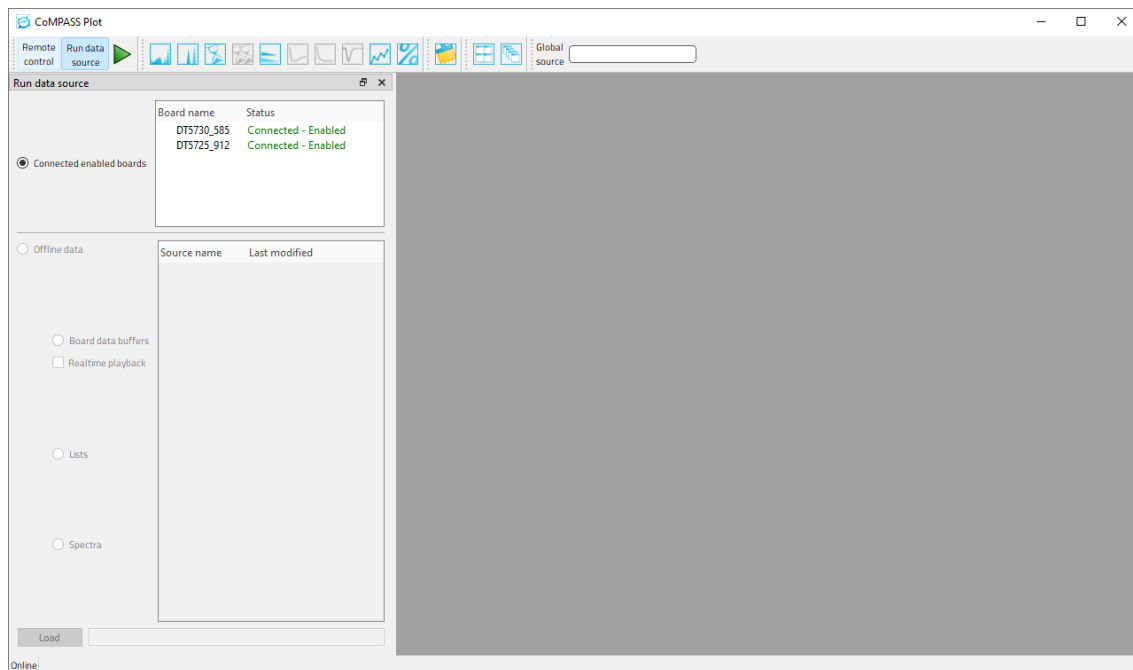

Fig. 2.35: CoMPASS Plot Window - Run data source section.
- list of all the available boards and their status in the CoMPASS Plot Run Data Source Section (Fig. 2.35)